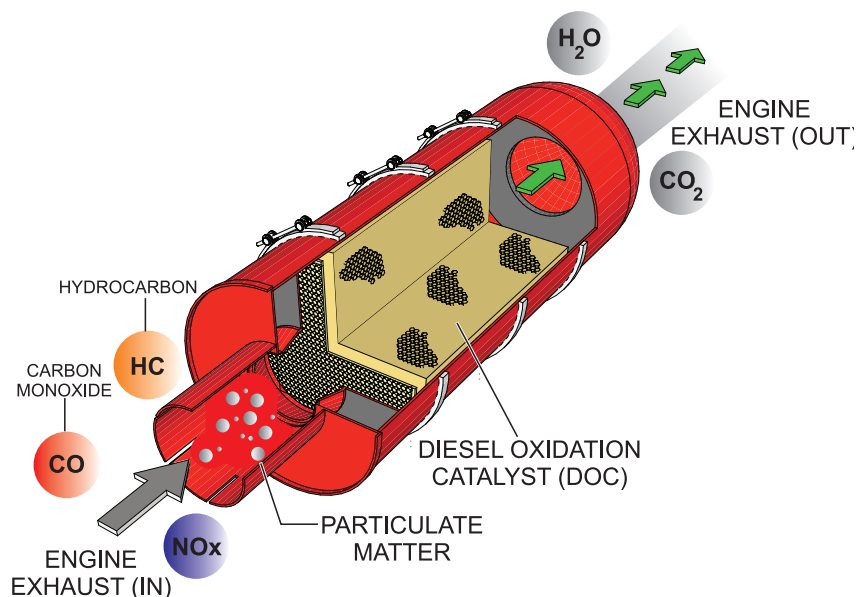

Figure 84. Diesel Oxidation Catalyst (DOC)
The DOC device (Figure 84) helps in filtering out large amounts of harmful **Nitrogen Oxides (NOx)** and **Particulate Matter (PM)** which are emitted by diesel engines. These exhaust emissions pose serious environmental and health risks. It is important to maintain and service the DOC emission safety device on a periodic basis.